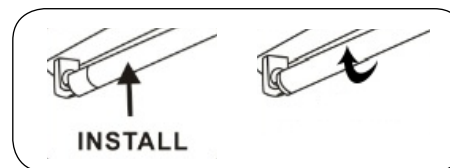

FIG. 2
4. Insert LED T5 replacement lamp, rotate lamp until pins lock in place. (Fig. 2)